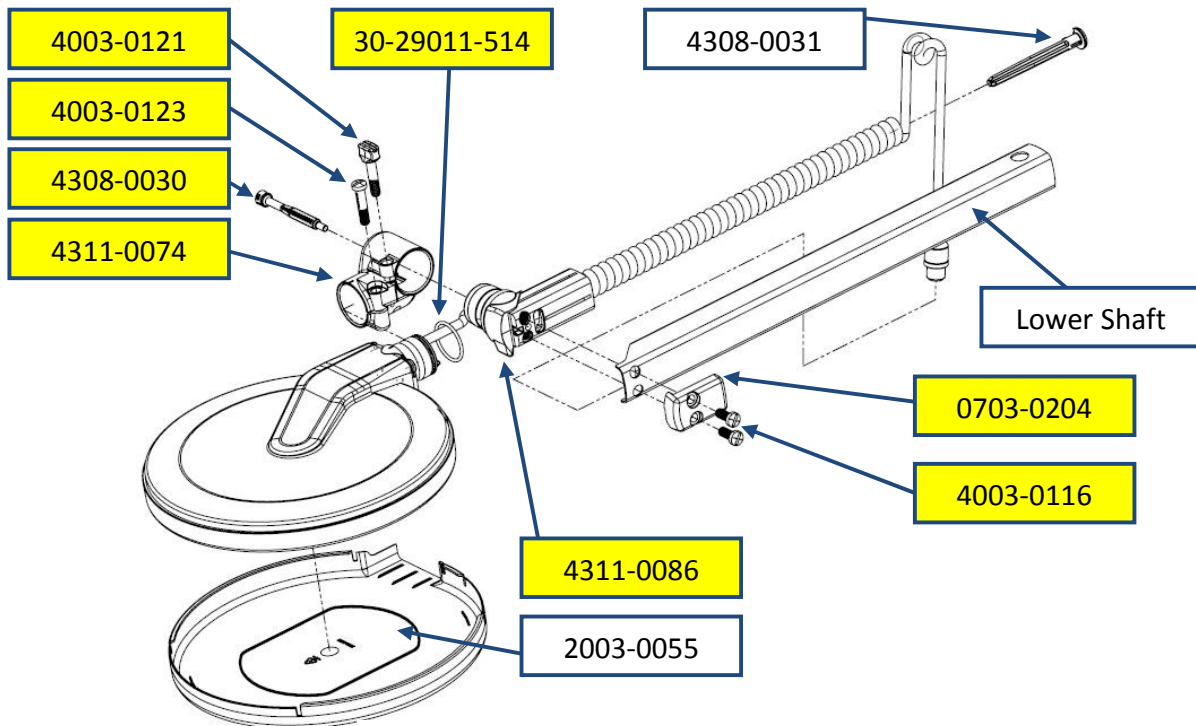

Figure 47: Parts of the Coil
a. The coil is a line replaceable unit and Figure 47 illustrates the major parts of the coil. 3004-0044 Coil Kit, is a service kit containing the coil and associated parts. 3004-0045 Coil Pivot Kit, is included within the 3004-0044 Coil Kit and is also available as a separate service kit. All parts are available individually.